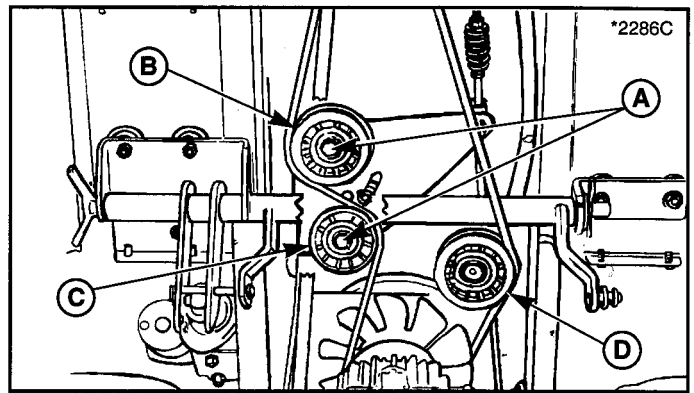
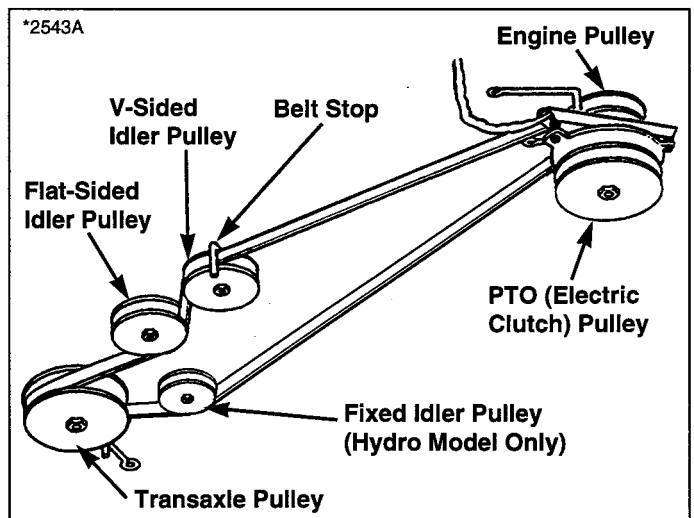

Figure 35. Drive Belt Idler Pulley
Figure 37. Tractor Drive Belt Routing
3. See Figure 35. Loosen capscrews (A). Slip belt from between front V-pulley (B) and belt stop and from between rear idler pulley (C) and belt stop.
7. See Figure 37. Slip belt from transaxle pulley and fixed idler pulley (hydro models). Remove belt.
9. Install new belt to idler pulleys as shown in Figure 37.
10. Install new belt to the idler pulleys as shown in Figure 37. Make sure belt is properly routed on flat and V sides. Tighten capscrews (A, Figure 35) securing pulleys. Adjust belt stops for 1/8" clearance from pulleys.
12. See Figure 37. Check belt routing around engine pulley, idler pulleys, and transaxle pulley. Check that the electric clutch, drag link and idler pulley spring are all correctly installed.